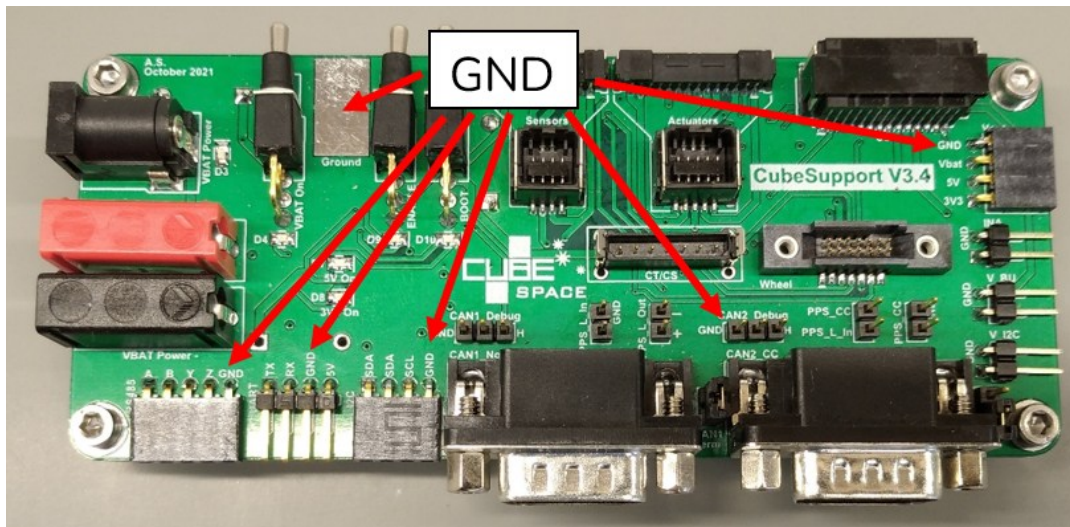
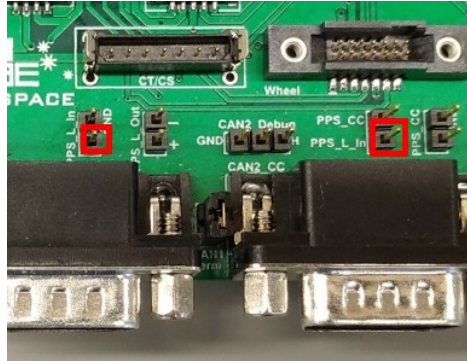
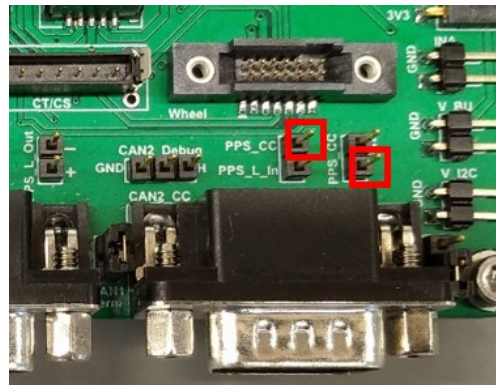

Figure 62: GND points on the CubeSupport PCB.
Figure 67: CubeSupport PCB “PPS_L_In” header pins indicated. Either of these can be used.
Figure 68: CubeSupport PCB “PPS_CC” header pins indicated. Either of these can be used.
Shown below is the setup for injecting GNSS UART packets into the CubeADCS. Note that the primary CAN communications channel is used, and the USB-UART cable included in the Ground Support Equipment is connected to the CC_LPUART_RX wire of the CubeSupport harness using the middle (orange) data output pin. The black (GND) pin is connected to one of the several GND connections on the CubeSupport PCB, shown in Figure 62.
NOTE: This section will use a different method depending on if the CubeComputer has been configured for receiving a PPS signal over a differentially signalled bus or single-ended 0 – 3.3V LVTTTL. Figure 67 shows the pin that drives the CubeSupport PCB's LVDS driver. Figure 68 shows the CubeSupport PCB's single-ended 0 – 3.3V LVTTTL PPS input pin. The CubeSupport PCB's GND pins are shown in Figure 62.
- 3) For a differentially signalled PPS input signal, this would be one of the “PPS_L_In” pins as indicated in Figure 67. These two pins are connected together on the CubeSupport PCB.
- 4) For a single-ended 0-3.3V LVTTTL PPS input signal, this would be one of the “PPS_CC” pins as indicated in Figure 68. These two pins are connected together on the CubeSupport PCB.
- 5) Use one of the GND pins on the CubeSupport PCB as shown in Figure 62 for the signal return.